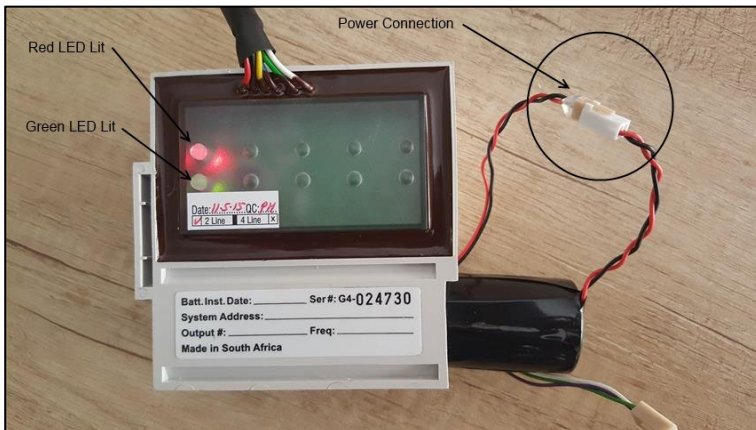

Figure 16: Plugged in Unit
- Referring to Figure 16 below, plug the battery connector socket into the radio receiver modules power connector plug (red and black wires).